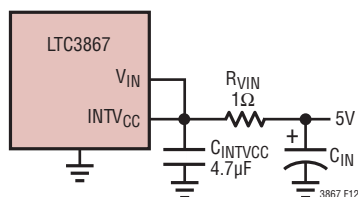

Figure 12. Setup for a 5V Input
For applications where the main input power is 5V, tie the VIN and INTVCC pins together and tie the combined pins to the 5V input with a 1Ω or 2.2Ω resistor as shown in Figure 12 to minimize the voltage drop caused by the gate charge current. This will override the INTVCC linear regulator and will prevent INTVCC from dropping too low due to the dropout voltage. Make sure the INTVCC voltage is at or exceeds the RDS(ON) test voltage for the MOSFET which is typically 4.5V for logic-level devices